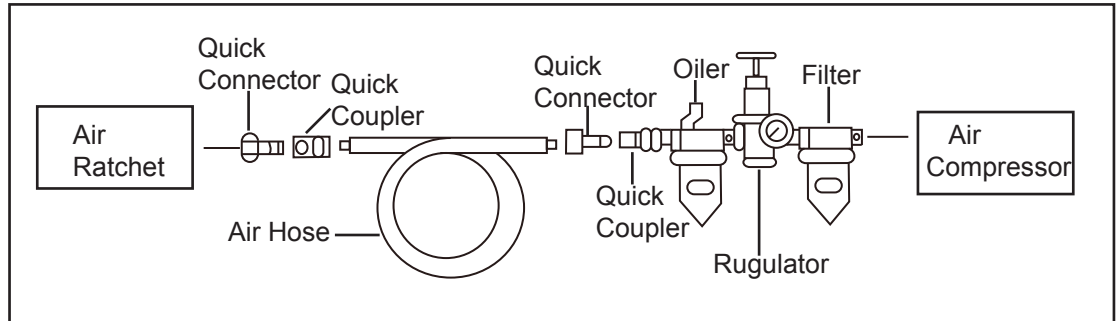

Figure 1- Airline Oiler Assembly
- The connector on the tool must not hold pressure when the air supply is disconnected. If the wrong fitting is used, the tool can remain charged with air after being disconnected and still be able to drive a fastener. See Figure 1 for the recommended accessories and connection order.